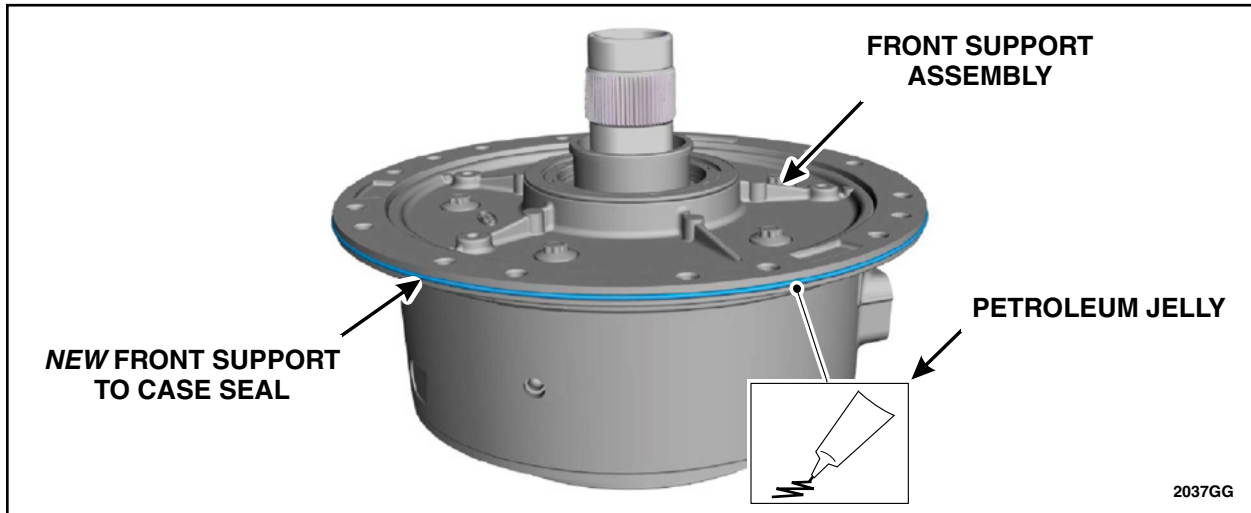

FIGURE 25
28. Install the *new* front support-to-case seal. Lubricate the seal with petroleum jelly. See Figure 25.